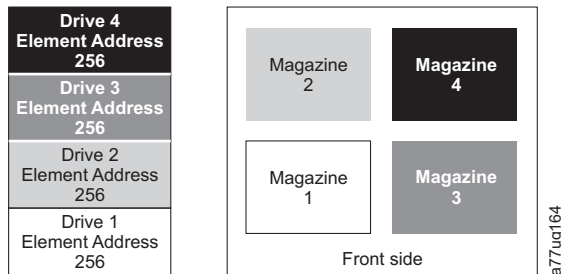

Figure 3-4. Configuration of a four - partition system
- Logical Library 1: Slot1 through 23 4096 (0x1000) through 4118 (0x1016) as shown in Figure 3-4 on page 3-6
When configured with four logical partitions, the Element Address assignments are as follows: DTE assignments are shown in Figure 3-4 on page 3-6.